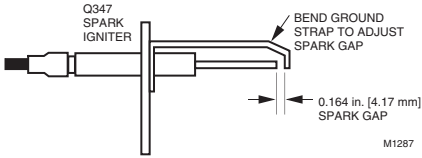

Fig. 1. Adjust Q347 spark gap.
- 3. The Q347 spark gap is factory-adjusted to 0.164 in. [4.17 mm]. If necessary, adjust spark gap by bending the ground strap. Refer to Fig. 1.
The flame signal is best when about 1 in. [25 mm] of flame rod is immersed in the burner flame. Refer to Fig. 1. A bent flame rod, bent mounting bracket, or cracked ceramic insulator can affect flame signal. Straighten mounting bracket or replace igniter-sensor if necessary.